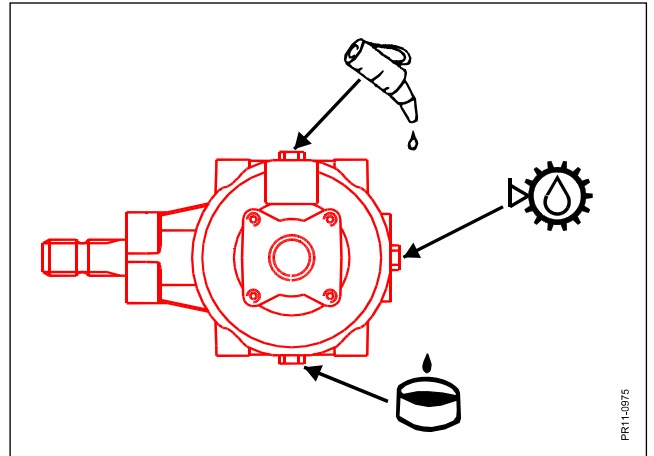

Fig. 4-6
- Fig. 4-6** Oil content:  540 rpm = 1.1 l